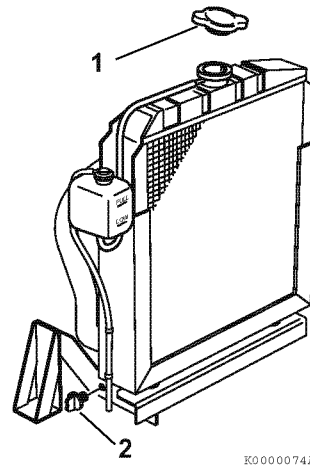

Figure 8-4
2. Remove the radiator cap (1, **Figure 8-4**).
3. Remove the drain plug or open the drain valve (2, **Figure 8-4**) at the lower portion of the radiator and drain the engine coolant.